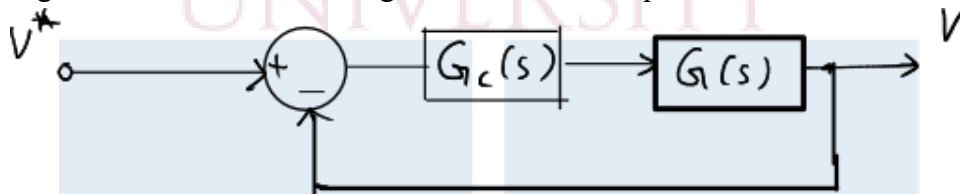

Figure 3.
- 18 Figure 3 shows the block diagram of a closed-loop controlled converter. (14)